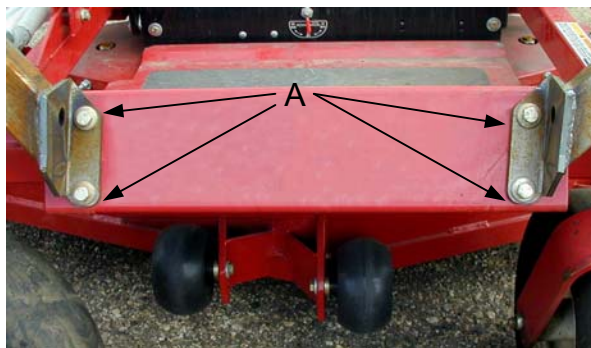

Figure 2
7. Remove the four bolts (A), shown in Figure 2, securing the front floor pan to the front mower frame. Mount the right hand and left hand front posts (Item #3 & #4) by inserting the top portion between the top cross member and the outer clamp brackets at the top and to the front mower frame where the four bolts were previously removed. Loosely secure the top of the front posts using two $3/8'' \times 3''$ bolts, Belleville washers and serrated nuts per side. Loosely secure the bottom of the front posts using four $3/8'' \times 1\ 1/2''$ bolts, Belleville washers and nuts.